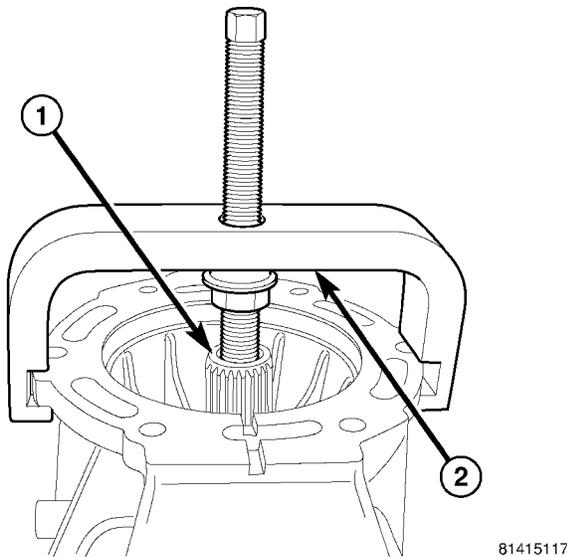

Fig. 18 MAINSHAFT REMOVER
(13) Remove mainshaft shaft (1) (Fig. 18) from rear housing bearing with Remover 9637 (2).